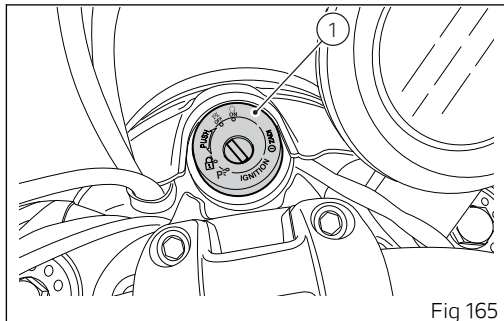

Fig 165
Move the ignition key to position (1, Fig 165). Make sure both the green light N (A) and the red light  (B) on the instrument panel come on.